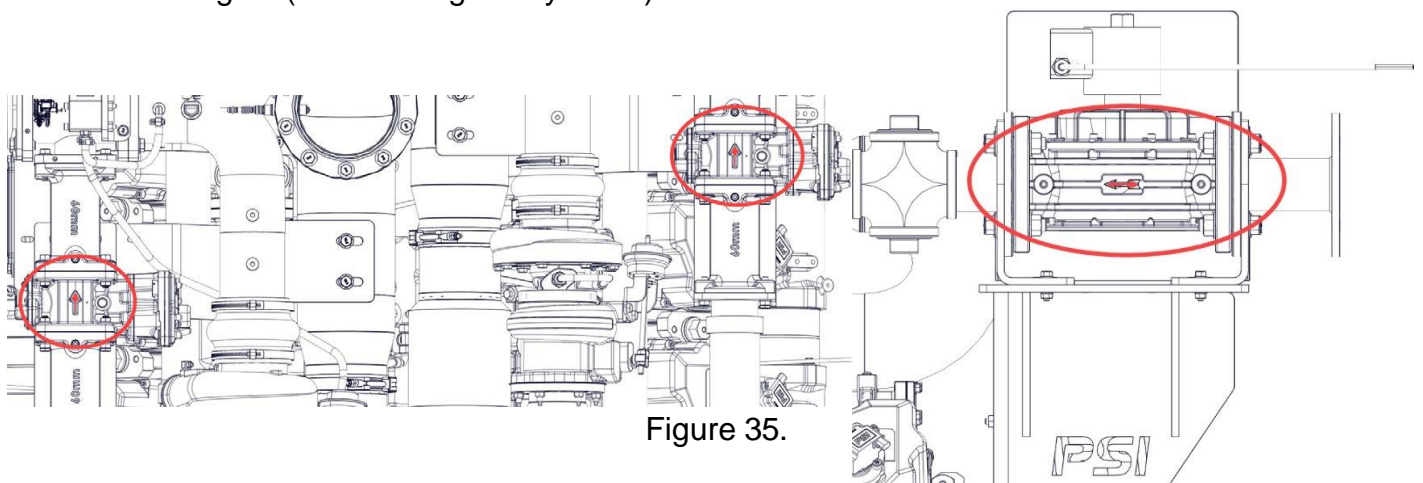

Figure 35.
9. Place the entire fuel system onto the fuel system brackets. Ensure the Mass Flow Gas Valve and Lock-Off Valve arrows (Figure 35) are facing the front of the engine (when facing the flywheel).